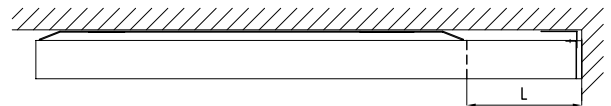

Figure 12. Extended cover with ceiling attachments.
- 2.- Extended cover with ceiling attachments (see fig. 12).